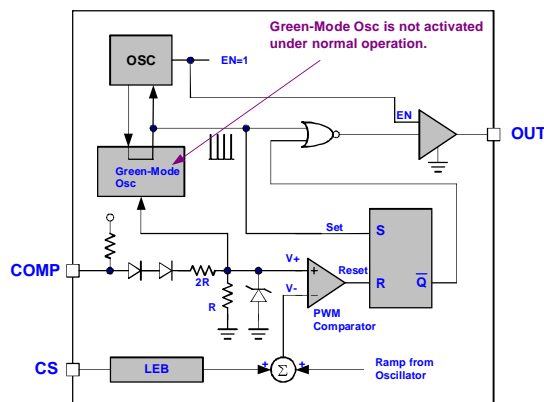

Fig. 10
What LD7552 used to implement the power-saving operation is Leadtrend Technology's own IP②. In such approach, as shown in the block diagram, 2 oscillators are implemented in LD7552. The first oscillator is to take care the normal switching frequency, which can be set by the RT pin through an external resistor. Under this operation mode, as shown in Fig. 10, the 2nd oscillation (green-mode oscillator) is not activated. Therefore, the rising-time and the falling-time of the internal ramp will be constant to achieve good stability over all temperature range. Under the normal operation, this oscillator is dominated the switching frequency.